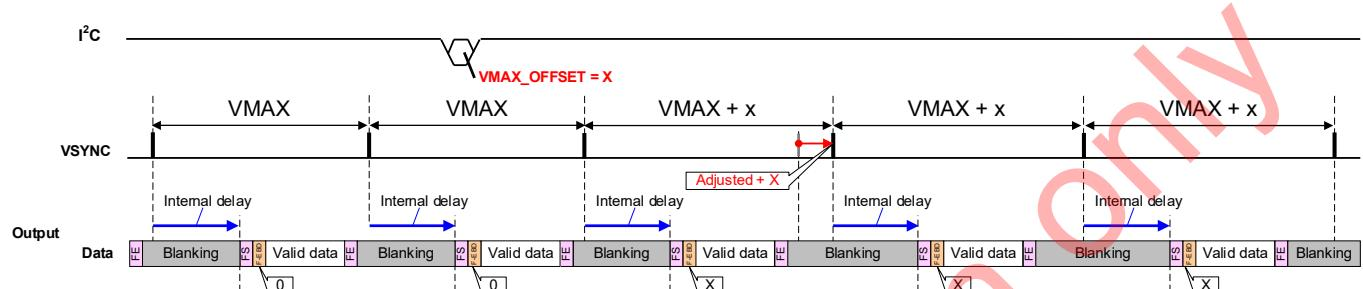

Figure 6-7 Example of the Line Count Extension Function’s Operation
“**Figure 6-7**” illustrates an example of this function’s operation. This sensor adjusts the vertical sync signal by adjusting the frame blanking period of the subsequent frame after the frame in which the offset value has been set. Set the offset value for each line using the VMAX_OFFSET register.
- “**Figure 6-7**” illustrates an example of an operation in the case of internal sync. The Line Count Extension function works regardless of the sync method (internal sync, external pulse-based sync and shutter trigger-based sync).